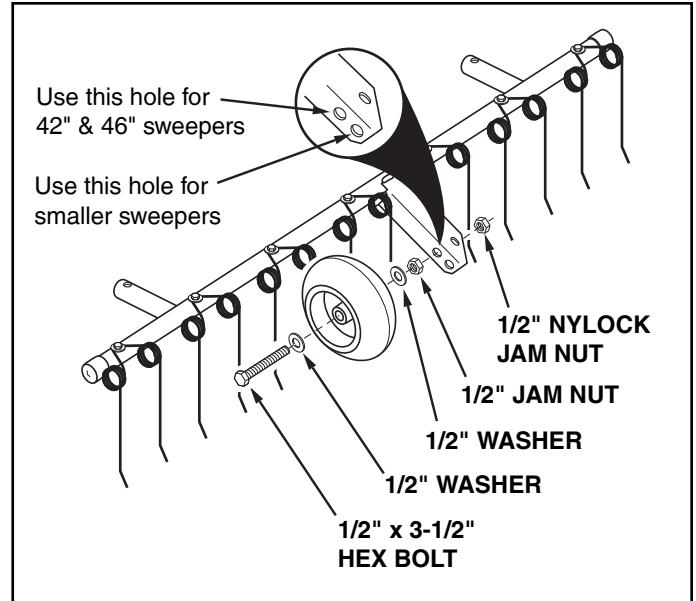

FIGURE 2
4. Assemble a 1/2" washer, the wheel, another 1/2" washer and the 1/2" plain jam nut onto the 1/2" x 3-1/2" hex bolt. See figure 2.
5. Insert the bolt through the welded bracket and assemble the 1/2" nylock jam nut onto the bolt. Adjust the nuts so that there is no end play in the wheel and then tighten the nuts securely against the welded bracket. Make sure the wheel still turns freely. See figure 2.
1. The operating height of the dethatcher is controlled by the gauge wheel at the front of the dethatcher and is not adjustable. The correct wheel position was determined in figure 2 when you assembled the wheel.